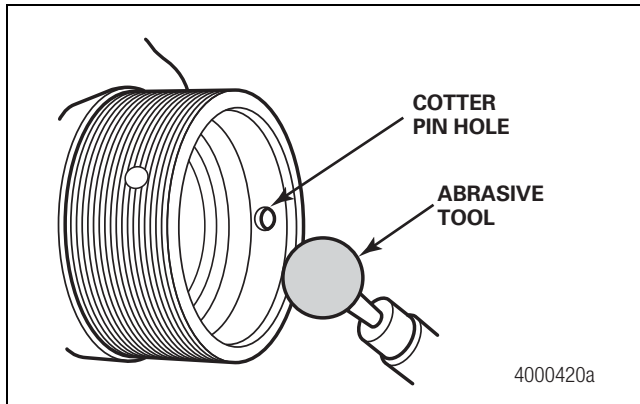

Figure 2.11
- If the axle spindle is equipped with cotter pin holes: Use a round abrasive tool to remove all metal burrs and sharp edges from the spindle bore side of the cotter pin holes. Figure 2.11.